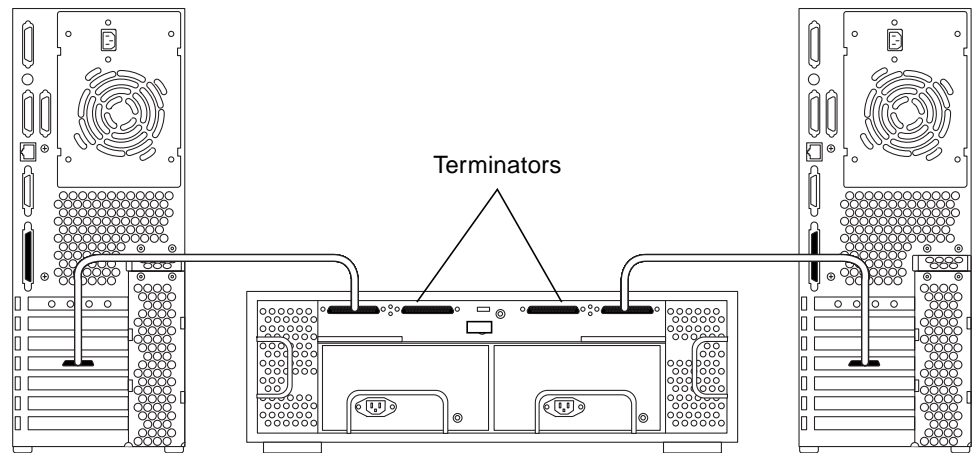

FIGURE 1-15 Netra st D1000 System in a Split-Box Configuration
- Split-box configuration—A box of disks split between two hosts, where each host has access to half the disks inside the Netra st D1000 system (FIGURE 1-15)